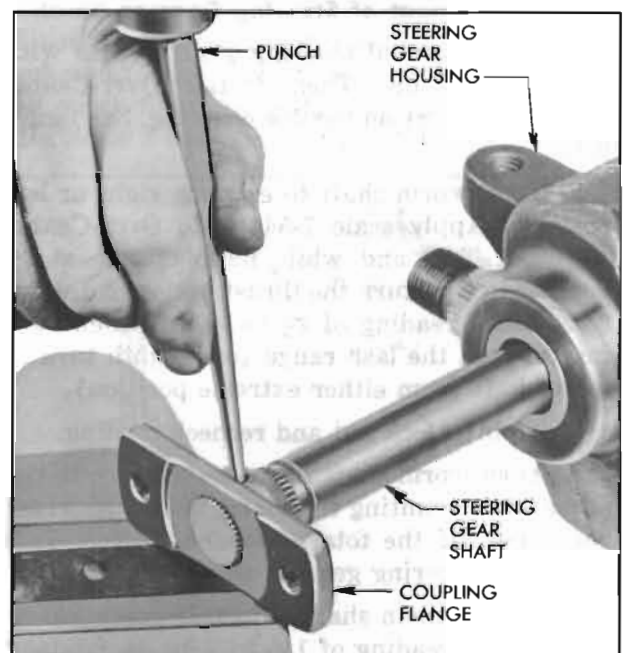

Figure 8-7—Removal of Coupling Flange
2. Support coupling flange and remove from worm shaft by driving pin out with punch. See figure 8-7.